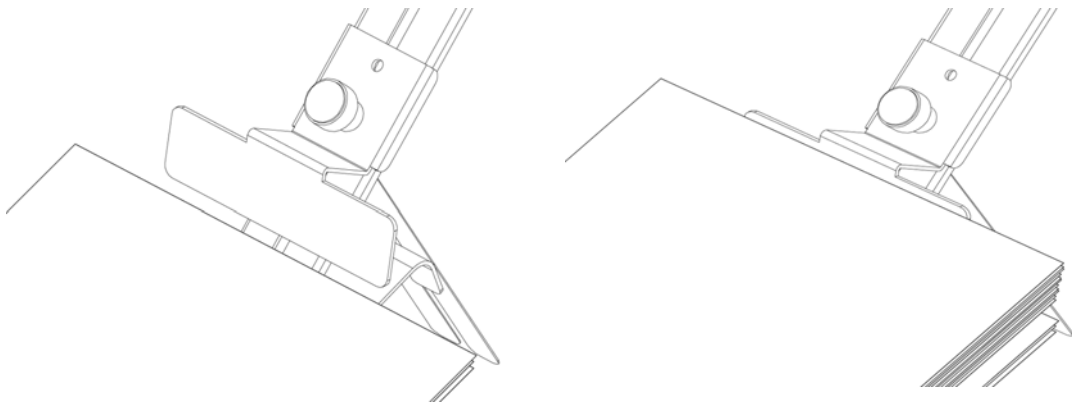

Figure 15: Adjusting the runner
- Push the runner towards the pile so that the bottom two or three products are free from the weight of the pile (see Figure 15).